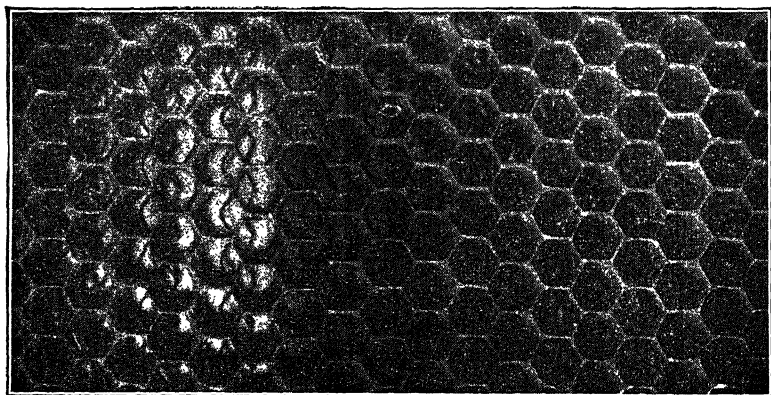

Fig. 10. Section of a Honeycomb Radiator
*Honeycomb Radiator.* A section of the conventional type of the honeycomb radiator is shown in Fig. 10. This may be of the general type of construction just described, with reference to the square honeycomb tubes or may approximate more closely the use of tubes such as was described with reference to the flat tubes. The honeycomb effect is sometimes secured directly by the use of tubes or by the application of a large number of very fine fins. These fine copper fins are sweated on to the tubes or cells and become a very definite part of the core, serving as conductors of heat to dissipate it into the core.